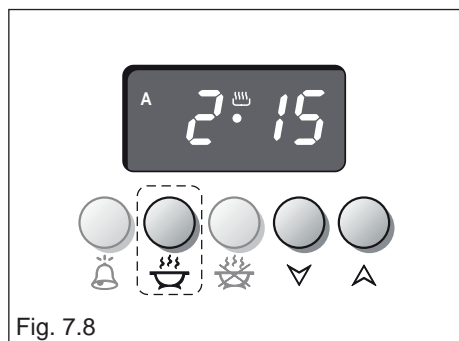

Fig. 7.8
1. Set the cooking time by pressing button  and then  to move forward or  to move back if you have gone beyond the required time (fig. 7.8).